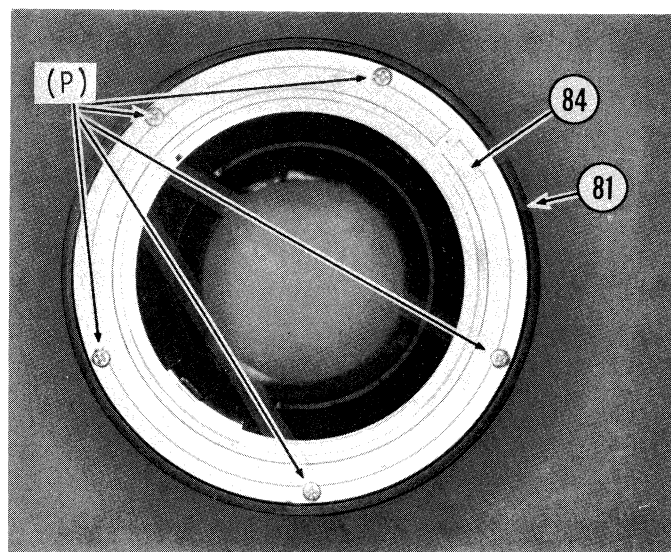
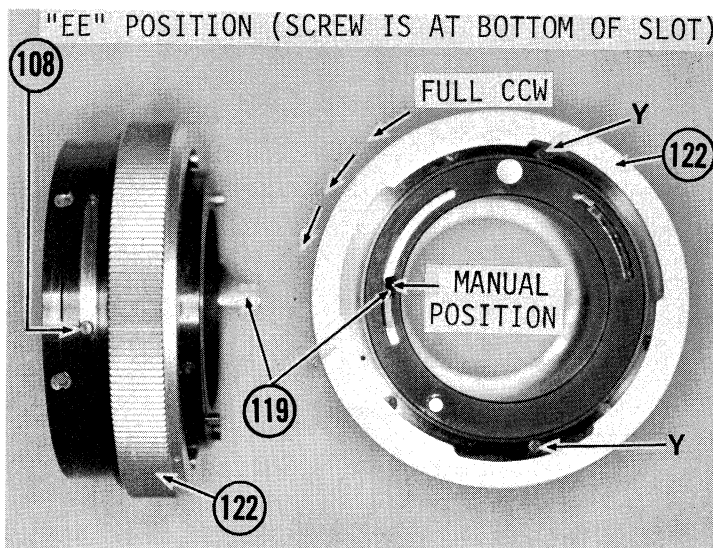

Fig. 42
Fig. 44
- 5.3.1.7 Remove five screws (P) which attach Nikon Mount (84) to Nikon Mount Frame (81). Lift off Nikon Mount. (Fig. 42) Between Nikon Mount and Nikon Mount Frame will usually be found one or more Rear Focus Spacers (82). Remove and lay aside.
- 5.4.1.5 Move Diaphragm screw (108) to bottom of slot, as shown in Fig. 42. Set Diaphragm Coupling Ring (119) to "Manual Position" (fully counterclockwise position). Remove two screws (Y). (Fig. 44)